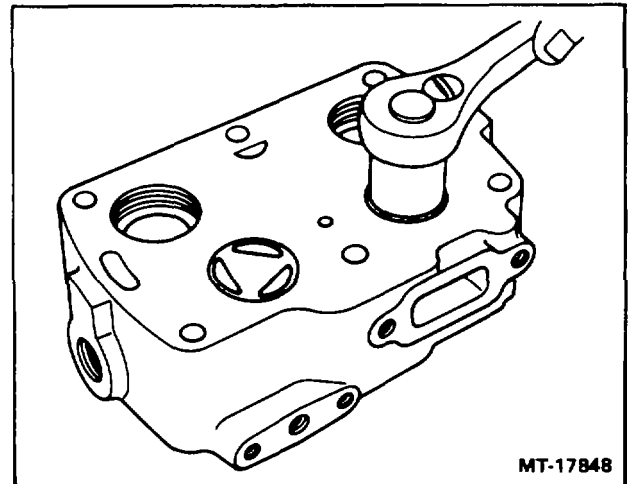

Figure 6 - Removing Valve Cage Using Tool SE-2613
4. Remove inlet valve cages (Item 14) with valve cage tool SE-2613 as shown in Figure 6. Then remove inlet valve springs (Item 15), inlet valves (Item 13), inlet valve seats (Item 16), and washers (Item 12). Discard washers.
- With head still positioned upside down, Insert new washers (Item 12), inlet valve seats (Item 16), inlet valves (Item 13), inlet valve springs (Item 15) and inlet cages (Item 14). Inlet valves and springs must be centered to insure the valve is not tightened between inlet valve seat and cage. Tighten valve cage to specified torque valve using valve cage tool SE-2613 as shown in Figure 6. Refer to TORQUE CHART in this Section.